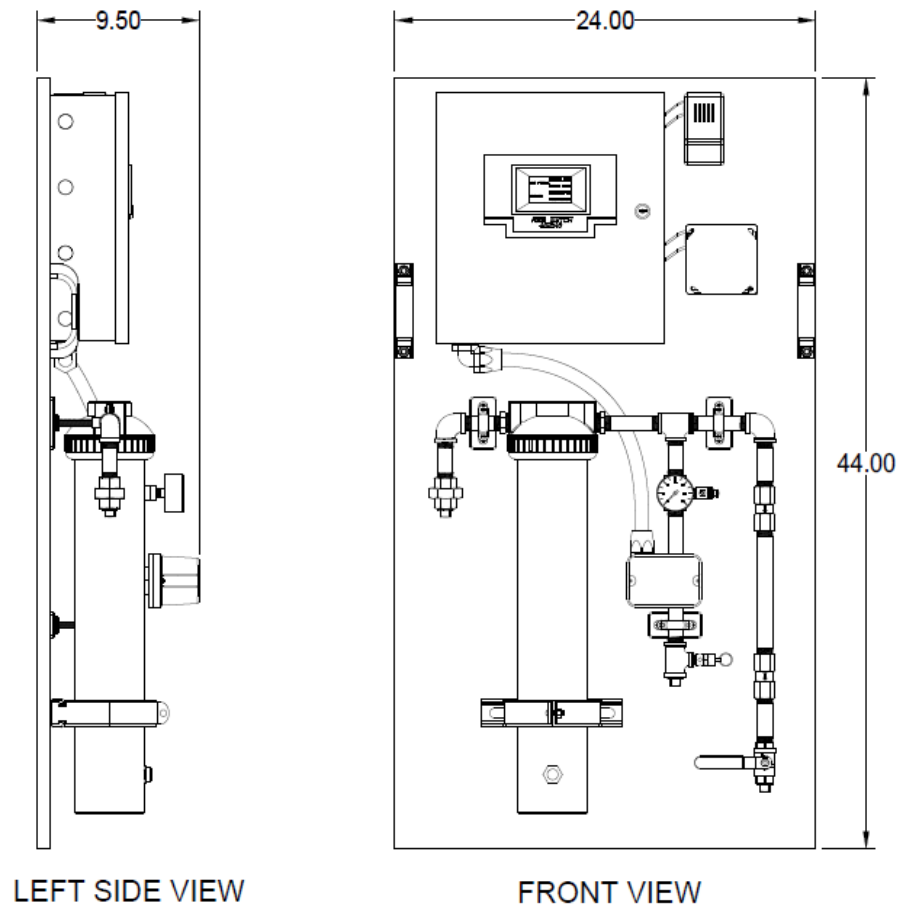

Figure 5 – Dimensions – **STANDPIPE-PAC™** SSS-100-XL1
3.3.1. Mounting. See Figures 5 and 6. Mount the **STANDPIPE-PAC™** in the chosen mounting location.